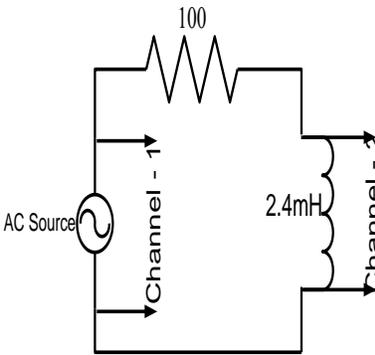
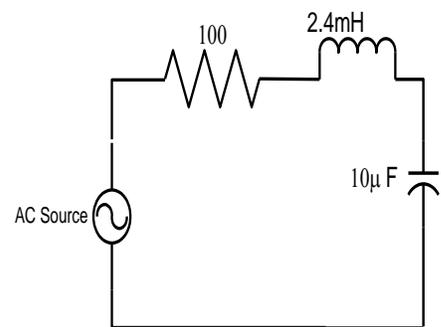

Figure-3
Figure-4
6. Do the same experiment for the figure-3 and figure-4.